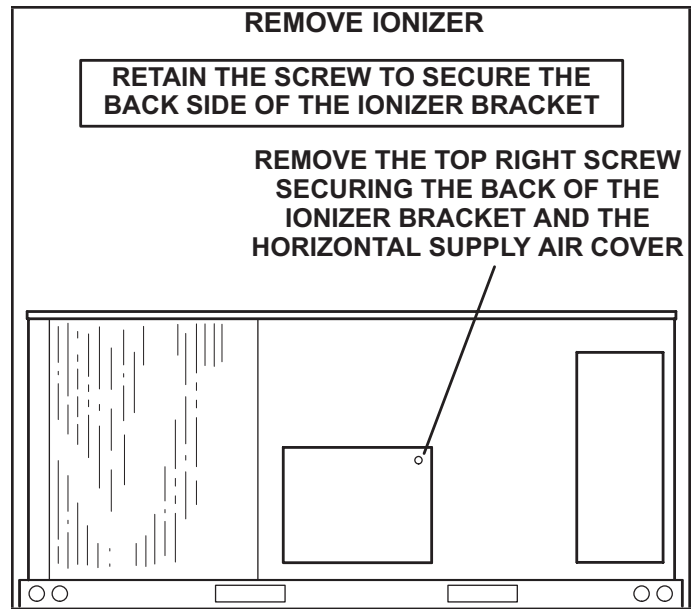

FIGURE 36
- 1 - On the back side of the unit, remove the screw securing the back of the ionizer bracket. See FIGURE 36. Retain the screw to secure the back side of the ionizer bracket.